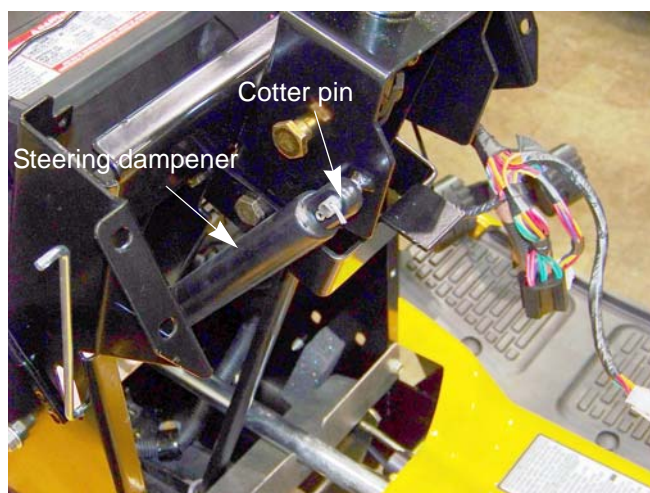

Figure 6A.18
8. Remove and discard the cotter pin that secures the tilt steering dampener. See Figure 6A.18.